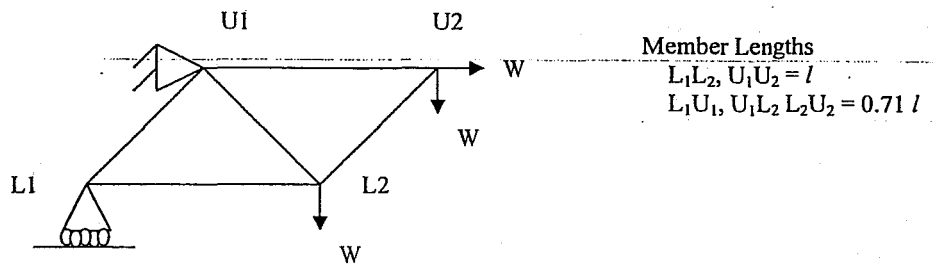

Figure Q2
- b). Find the deflection of point U2 of the truss given in Figure Q2, in terms of W, A, E. (14 Marks)